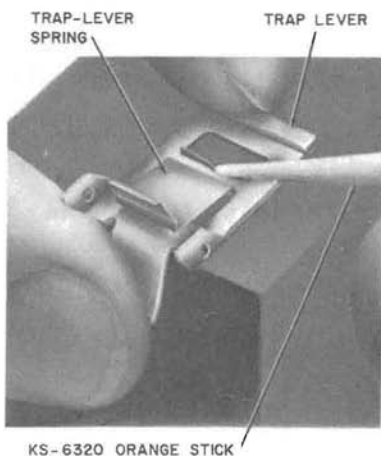

Fig. 29—Bending Trap-Lever Spring
- (1) Remove old spring.
- (2) Place trap-lever and new P-10E702 spring on a flat surface (Fig. 29).
- (3) Use a KS-6320 orange stick to bend trap-lever spring around center bar of trap-lever (Fig. 29 and 30).